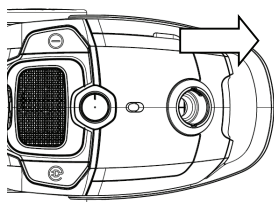

Fig. 6
Carry vacuum cleaner only by the handle (1) when moving around (Fig 6).